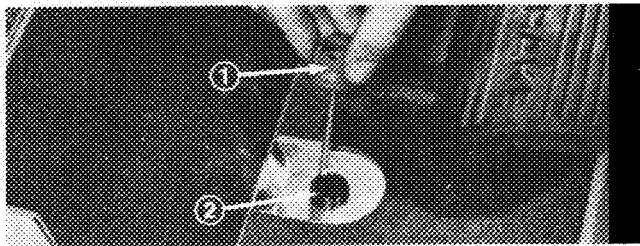

Figure 10
2. Remove dipstick cap (Fig. 10) from filler neck and wipe it with a clean rag. Screw dipstick cap finger-tight onto filler neck; then remove it and check level of fluid. If level is not within 1/2 inch (13 mm) from the groove in the dipstick (Fig. 10), add SAE 10W-30 engine oil, or, if used, automatic transmission fluid to raise level to groove mark. Do not overfill.